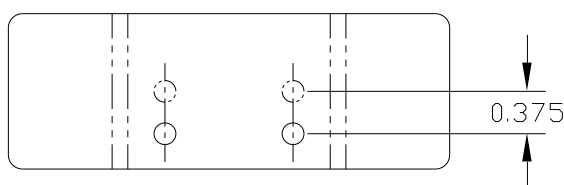

Figure 6
- 3.5. Mark and drill 0.192" diameter holes horizontally centred on, with the same spacing, and at a distance of 0.375" down from the existing holes in the mount (refer to figure 6).